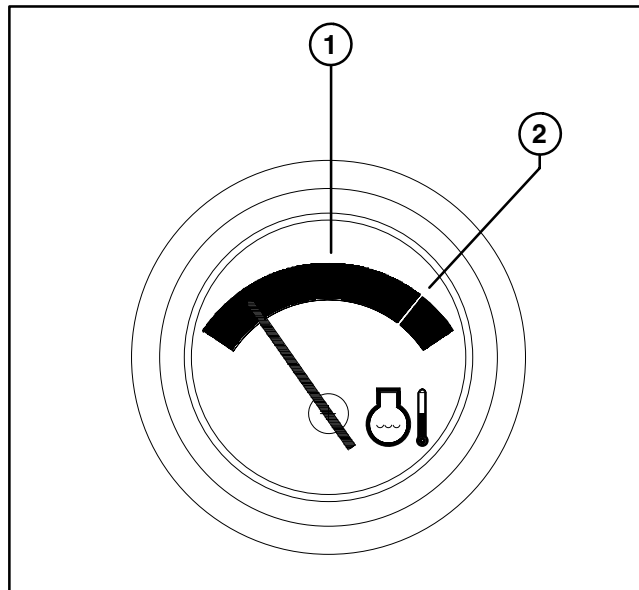

Figure 19
2. Take test point readings (Fig. 19).